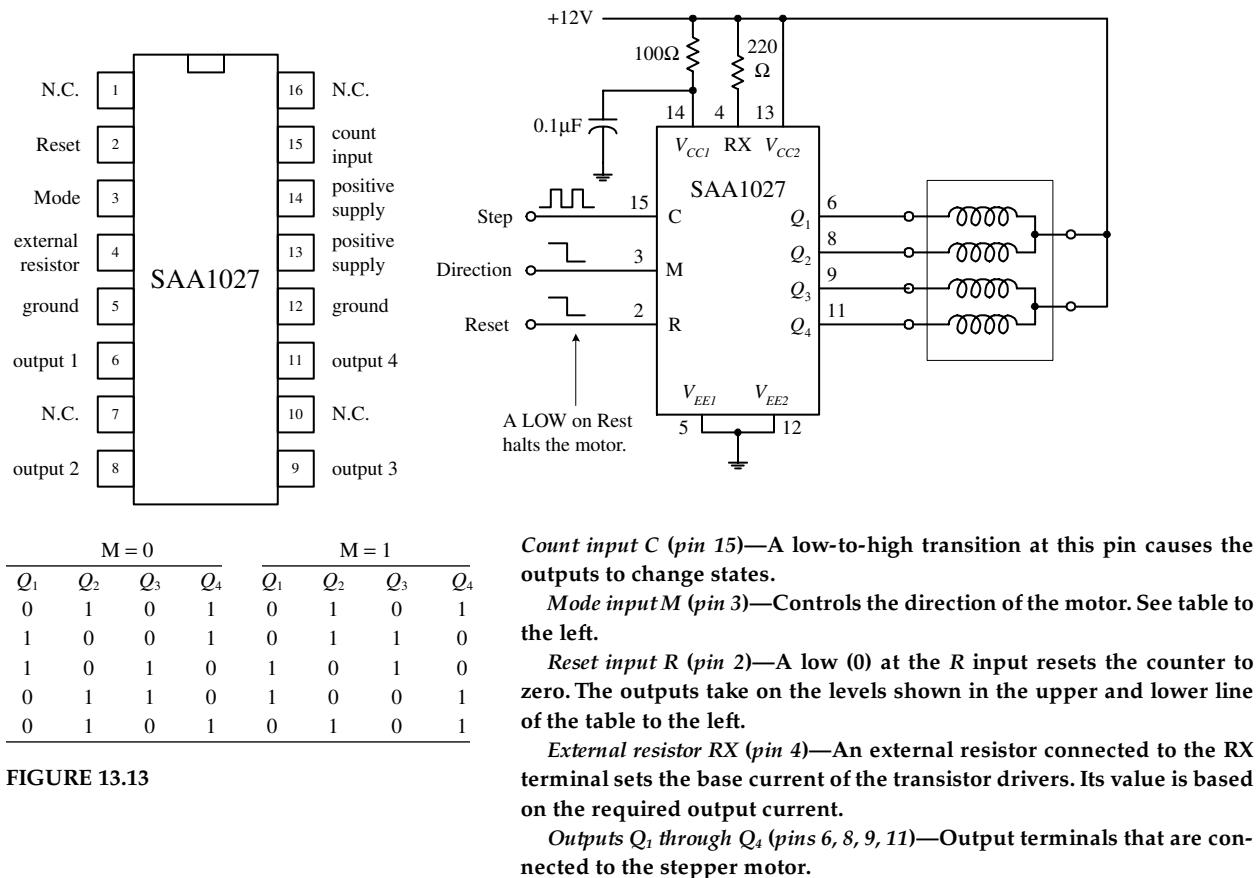

FIGURE 13.13
chip has high-noise-immunity inputs, clockwise and counterclockwise capability, a reset control input, high output current, and output voltage protection. Its supply voltage runs from 9.5 to 18 V, and it accepts input voltages of 7.5 V minimum for high (1) and 4.5 V maximum for low (0). It has a maximum output current of 500 mA. Figure 13.13 will paint the rest of the picture.